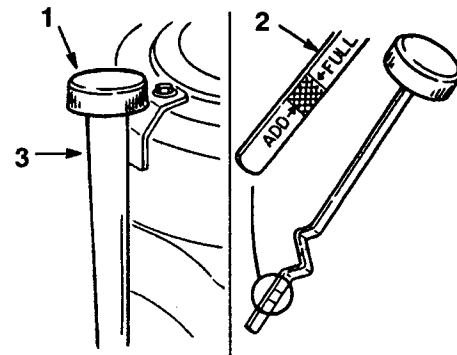

Figure 32
3. Clean around the oil dipstick (Fig. 32) so dirt cannot fall into the filler hole and damage the engine.
4. Unscrew the oil dipstick and wipe the metal end clean (Fig. 32).
5. Screw the oil dipstick fully onto the filler tube (Fig. 32). Unscrew the dipstick again and look at the metal end. If oil level is low, slowly pour only enough oil into the filler tube to raise the level to the "FULL" mark.
6. Slowly pour approximately 80% of the specified amount of oil into the filler tube (Fig. 32). Now check the oil level; refer to Checking Oil Level, page 30, steps 4-5.